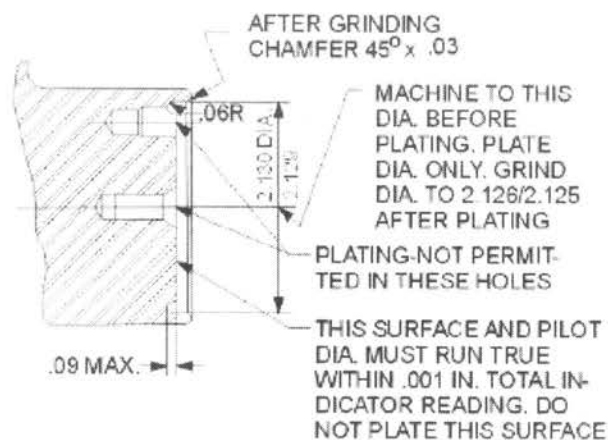

Figure 1. Details for Repairing Pilot Diameter of Crankshaft
- a. After removing the dowel, machine the pilot diameter in the end of the crankshaft to 2.129/2.130 inch as shown in the illustration. See Figure 1. Also, cut the .09 deep x .06R undercut as shown.
- e. Chamfer edge of pilot diameter  $45^\circ \times .03$  as shown in Figure 1.